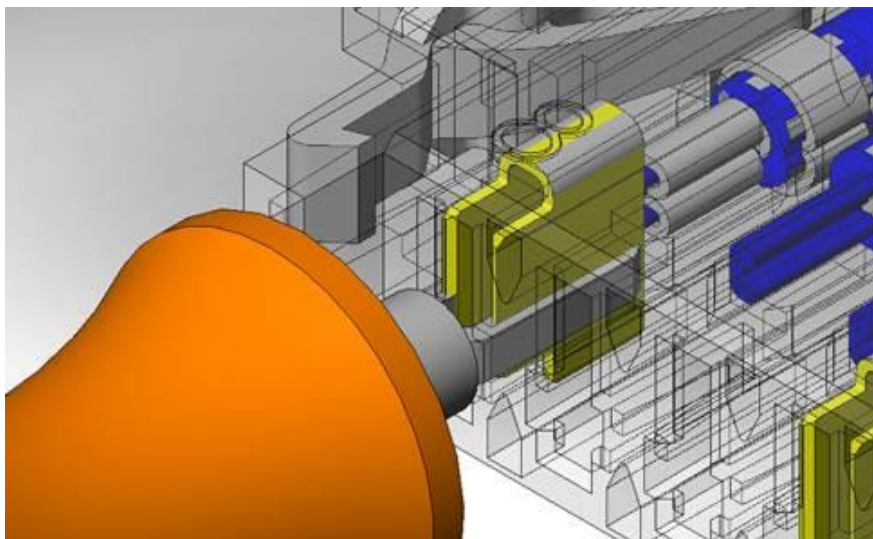

FIGURE 3
2. Insert the tines into the channels until the tool bottoms out on the housing as shown in **Figure 3**.